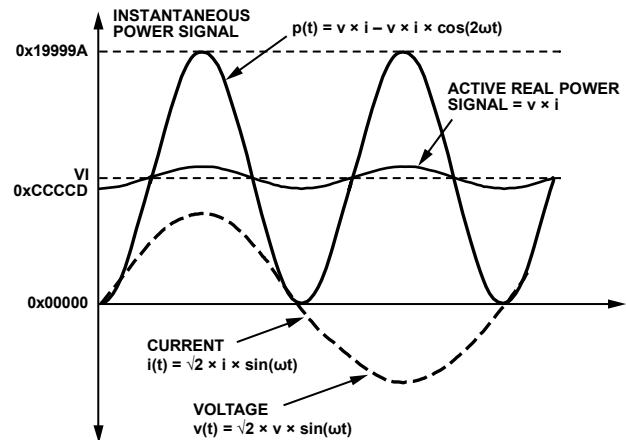

Figure 50. Active Power Calculation
Note that the active power is equal to the dc component of the instantaneous power signal $p(t)$ in Equation 11, that is, VI . This is the relationship used to calculate active power in the ADE7566/ADE7569. The instantaneous power signal $p(t)$ is generated by multiplying the current and voltage signals. The dc component of the instantaneous power signal is then extracted by LPF2 (low-pass filter) to obtain the active power information. This process is illustrated in Figure 50.
The ADE7566/ADE7569 also incorporate an active power offset register (WATTOS[15:0]). It is a signed, twos complement, 16-bit register that can be used to remove offsets in the active power calculation (see Figure 50). An offset can exist in the power calculation due to crosstalk between channels on the PCB or in the IC itself. The offset calibration allows the contents of the
As mentioned in the Active Energy Calculation section, the discrete time sample period (T) for the accumulation register is 1.22 μ s (5/CLKIN). With full-scale sinusoidal signals on the analog inputs and the WGAIN register set to 0x000, the average word value from each LPF2 is 0xCCCCD (see Figure 50). The maximum positive value that can be stored in the internal 49-bit register is 2^{48} (or 0xFFFF,FFFF,FFFF) before it overflows. The integration time under these conditions when WDIV = 0 is calculated in the following equation: